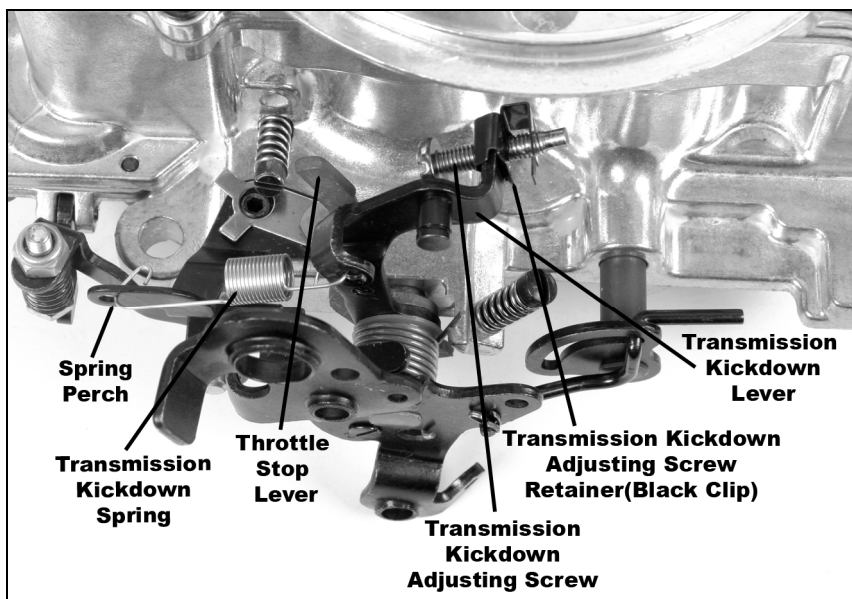
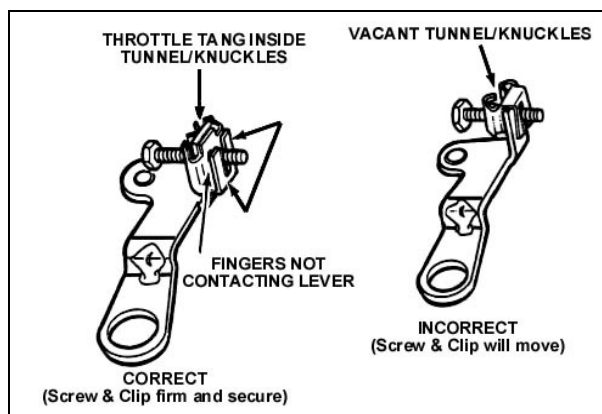

Figure 5—Ford applications
Figure 6—Ford applications
WARNING: On automatic transmission vehicles only, install the transmission kickdown adjustment screw and black retaining clip, as correctly indicated (See Figure 5). Failure to attend to this detail may result in a sticking wide-open throttle or dangerous uncontrolled engine speed.
2. Insert the transmission kickdown screw with the black retaining clip on the transmission kickdown lever (Figure 5). This assembly must be installed according to the detailed drawing (Figure 6).
4. Install the transmission kickdown spring between the transmission kickdown lever and spring perch (Figure 5).